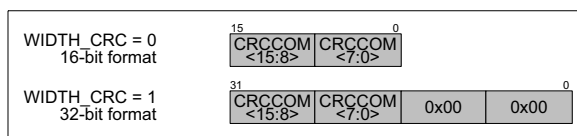

**FIGURE 6-9:** Continuous Read Sequences With and Without CRC Checksum Enabled.
The communication data on the SDO pin can be secured through the insertion of a Cyclic Redundancy Check (CRC) checksum at the end of each continuous reading sequence. The CRC checksum on communications can be enabled or disabled through the  $EN\_CRCCOM$  bit in the STATUSCOM register. The CRC message ensures the integrity of the read sequence bits transmitted on the SDO pin, and the CRC checksum is inserted in between each read sequence (see Figure 6-9).
**Note:** The CRC will be generated only at the end of the selected address set, before the rollover of the address pointer occurs (see Figure 6-9).